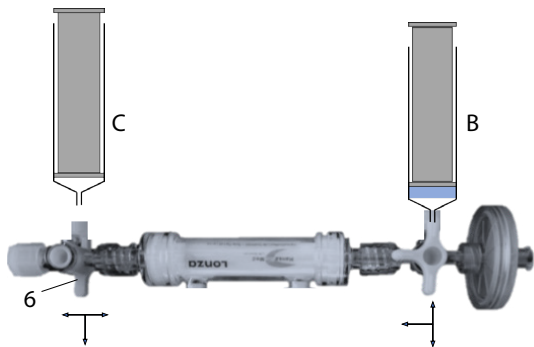

Fig 5
- Rotate the valve 6 in the position indicate in figure 5 and disconnect the syringe C.